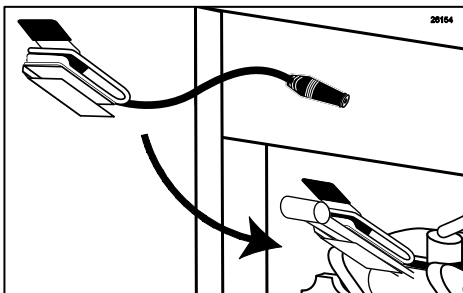

Figure 110
1. To install the standard Spigot Switch assembly to a flat handle, simply clip the Switch Bracket onto the handle and slide it up the handle until the switch is within grasping range. (See Figure 110.)